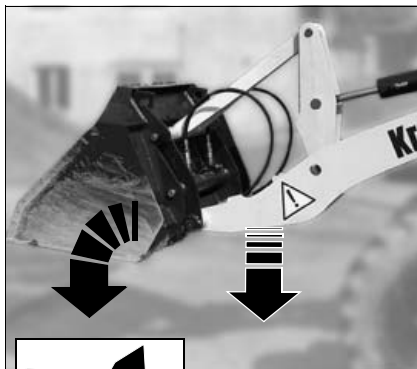

Fig. 95: Lowering and dumping out the attachment
- Push control lever fig. 95/9 to the right B.
- ☞ Push control lever fig. 95/9 forwards C.